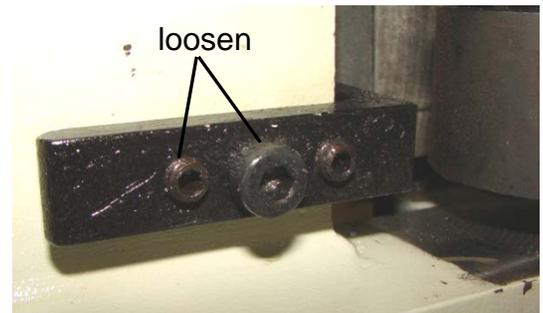

figure 5
4. Remove the shadow wire to avoid breaking it, before changing the blade. Loosen the center bolts of both brackets and the outside setscrews to relieve tension on the wire. (fig. 5)